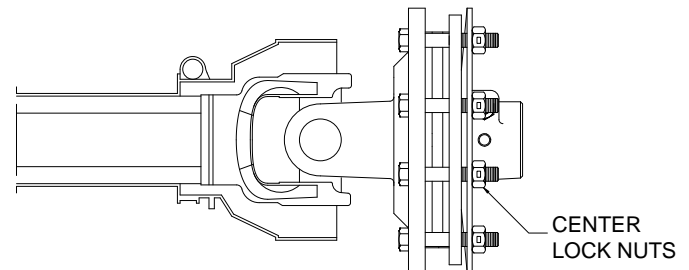

Figure 38: Adjusting the torque limiter
1. Loosen the center locknuts (Figure 38) on the torque limiter so that the pressure is relieved from the pressure plates.